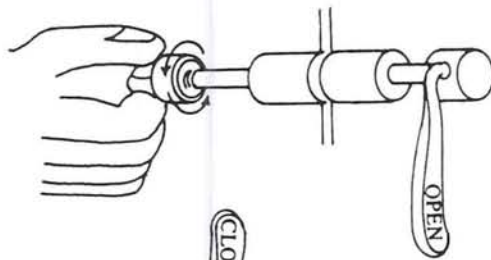

Figure 3a
- Tighten the adjusting nut in a clockwise direction by hand as tightly as possible, as shown in Figure 3a.